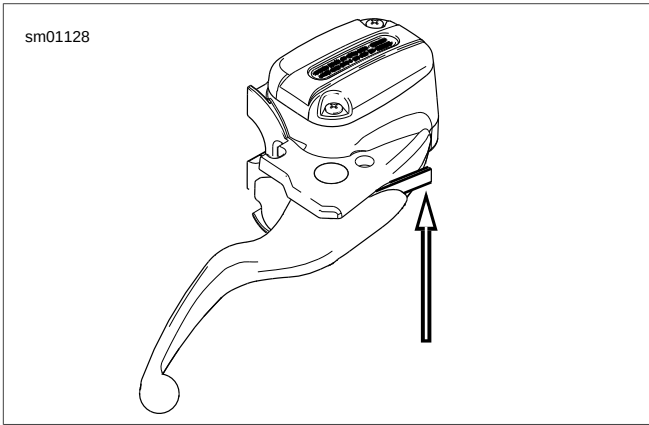

Figure 7-50. Install 4 mm (5/32 in.) Thick Cardboard Insert
5. See Figure 7-50. Place the cardboard insert between the brake lever and lever bracket.